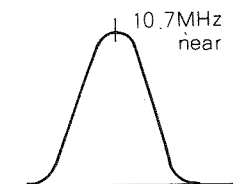

Fig. 13
- Adjust as indicated until the wave form shown in Fig. 13. is obtained.